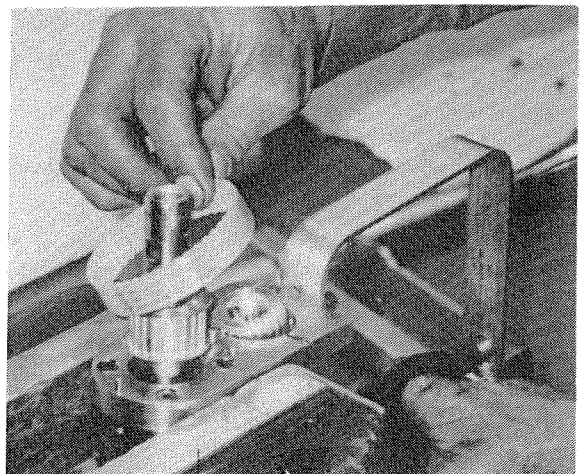

FIGURE 5-17
- E. LOOSEN SCREW, (ITEM #8), SO THAT THE AIR MOTOR, (#14) IS FREE ENOUGH TO PERMIT REMOVAL OF THE ENDLESS TIMING BELT, (#13) SEE FIGURE 5-17.